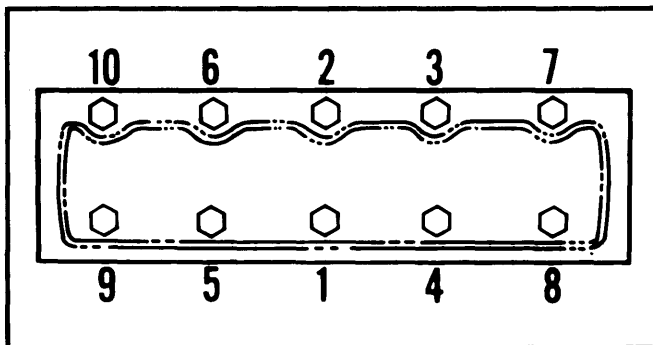

Fig. 4 Cylinder Head Tightening Sequence
2) Torque head bolts to specifications gradually. Follow tightening sequence shown in Fig. 4. Reverse removal procedure to complete installation.